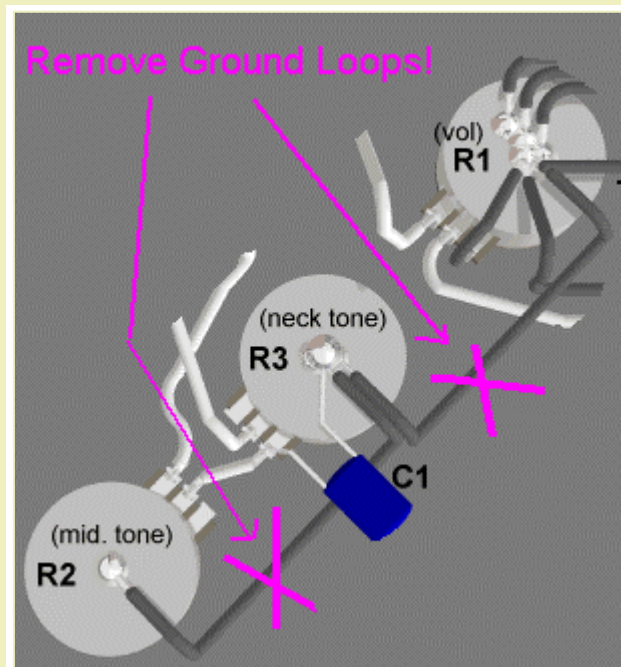

Figure 4
22. Remove any wires which are soldered from the shell of one pot or switch to the shell of another. **These wires are ground loops** because the bodies of the controls are also electrically connected through the foil on the back of the pickguard. Figure 4 shows typical ground loops in stock Fender wiring. Most guitars from other manufacturers are similar.